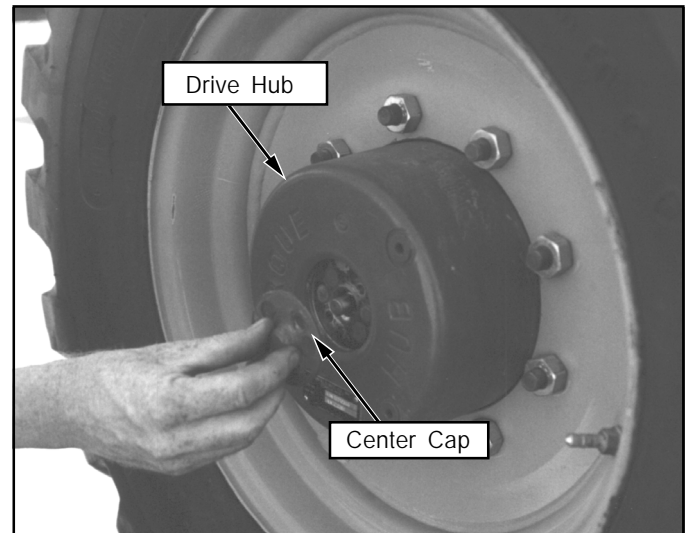

Figure 6: Disengaging Drive Hub
3. Refer to figure 6 and disengage all four drive hubs. Remove two screws and center cap. Reinstall center cap in the opposite direction.